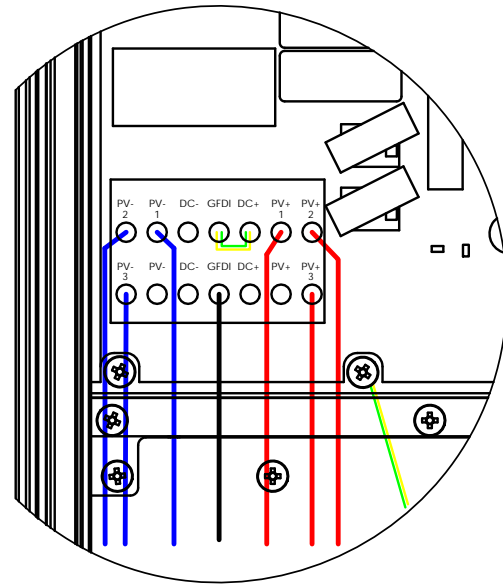
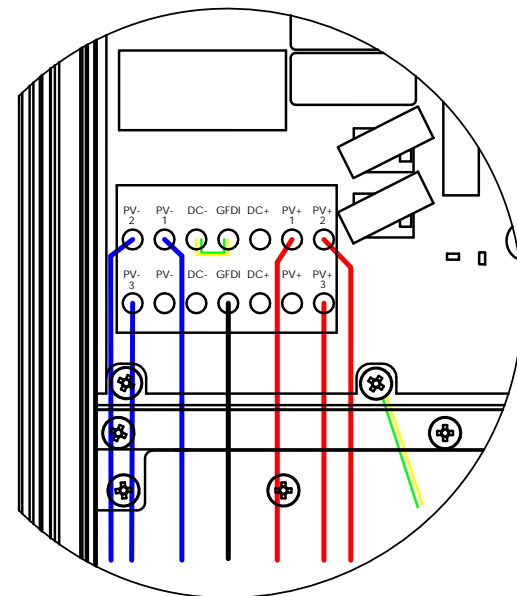

Figure 5.11: Positive earthing
Figure 5.12: Negative earthing
5. Clamp the enclosed cable bridge in the upper GFDI terminal and the DC+ (figure 5.11) or DC- connection (figure 5.12). Consult the module manufacturer for information on which generator pole should be earthed.